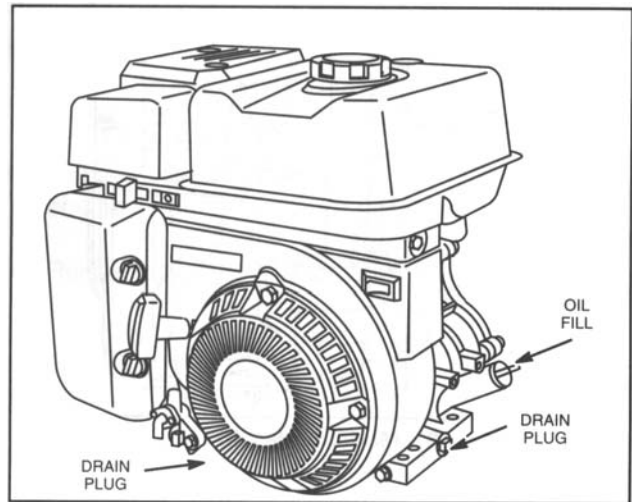

Figure 3 - Oil Fill and Drain Plugs
2. Thereafter, change oil every one hundred (100) hours of operation or every fifty (50) hours of operation if operated under heavy load and usage or in high ambient temperatures.
3. Remove oil drain plug, Figure 3, and drain oil while engine is still warm.
4. Install drain plug. See Figure 3.
5. Remove fill or oil dipstick and refill slowly with new oil of proper service classification and viscosity grade. DO NOT OVERFILL. See Figures 3 and 4.